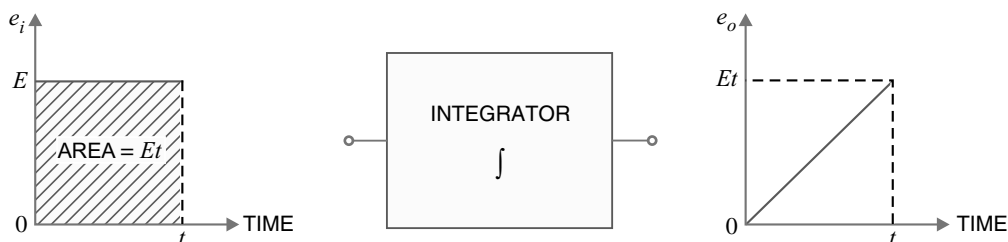

Fig. 16.31
**Solution.** We know that a properly designed integrator produces an output waveform whose value at any instant of time is equal to the *total area under the input waveform* upto that point in time. In Fig. 16.31, input to the integrator is steady d.c. voltage of *E* volts. The graph of the input d.c. voltage versus time is simply a horizontal line at the level of *E* volts because the